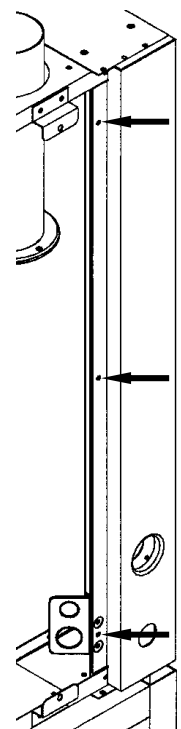

Figure 3
- f. Remove rear RH side corner panel (power and water entry points), secured with 3 screws at front edge of panel. (Figure 3)
- Remove rear RH side corner panel (power and water entry points), secured with 3 screws at front edge of panel (Figure 3).
- Replace rear RH panel (Figure 3) on each unit using original screws.